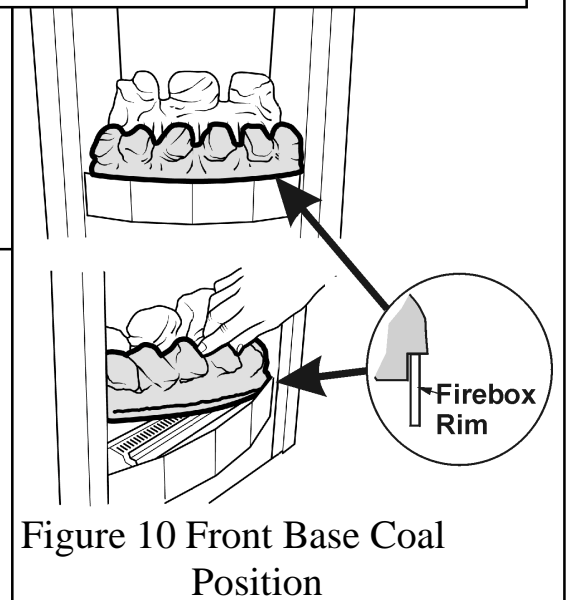

Figure 10 Front Base Coal Position
3. Place the front base coal in the firebox with its bottom front locating over the front rim of the firebox. Pull the coal forward so that it locates immediately behind the front rim of the firebox. See figure 10.